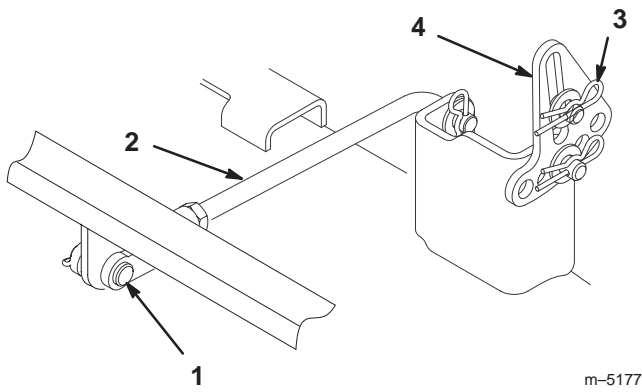

Figure 47
4. Remove the hairpin cotter and clevis pin from the rear trunnion rod (Fig. 47) on each side of the mower.
5. Remove the hairpin cotter and washer at the mower leveling brackets (Fig. 47) on each side of the mower. Note which hole the leveling bracket is mounted in for future installation. Slide the brackets off of the mounting pin.
- Attach the rear trunnion rod to the tractor with the clevis pin and hairpin cotter (Fig. 47) on each side of the mower.
- Slide the leveling brackets onto the mounting pins and secure them with the washers and hairpin cotters (Fig. 47).